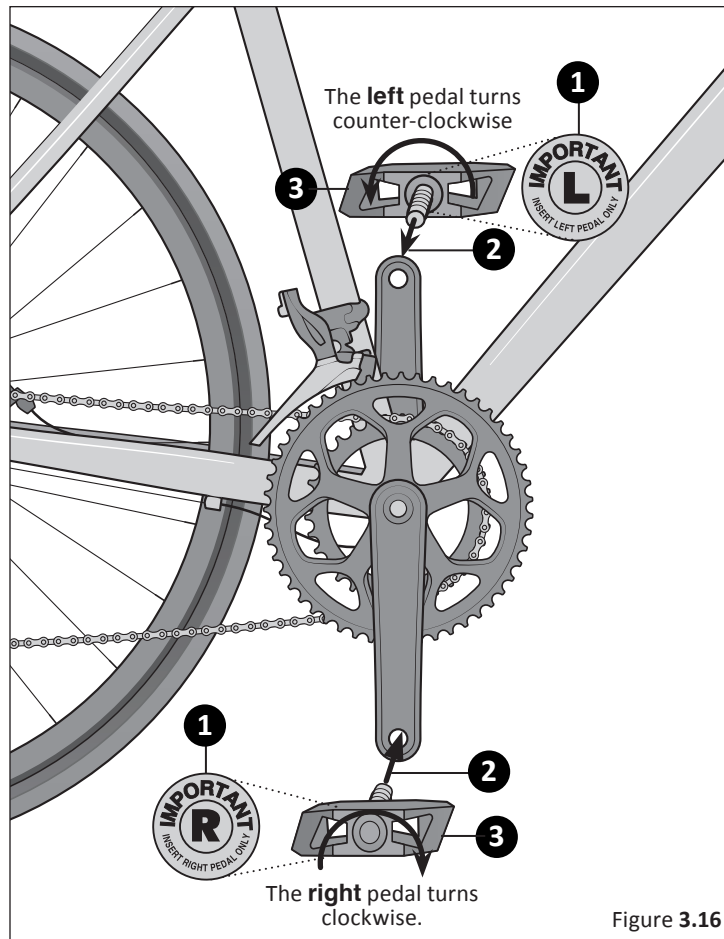

Figure 3.16
- 1 Match the pedal marked **R** with the right-hand crank arm and match the pedal marked **L** with the left-hand crank arm. Figure 3.16